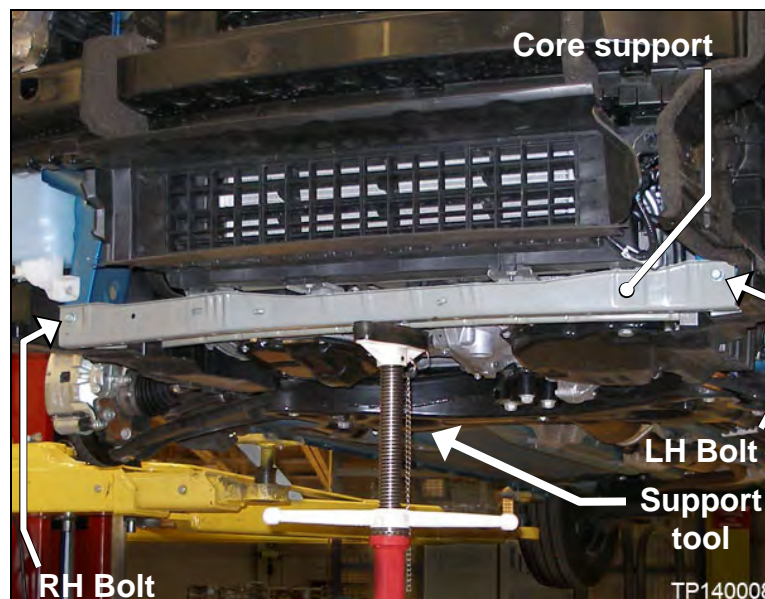

Figure GS8
3. If the upper bolts cannot be reinstalled easily (the bolt holes interfere - see Figure GS6), loosen the two (2) lower radiator core support bolts (see Figure GS8 further below).